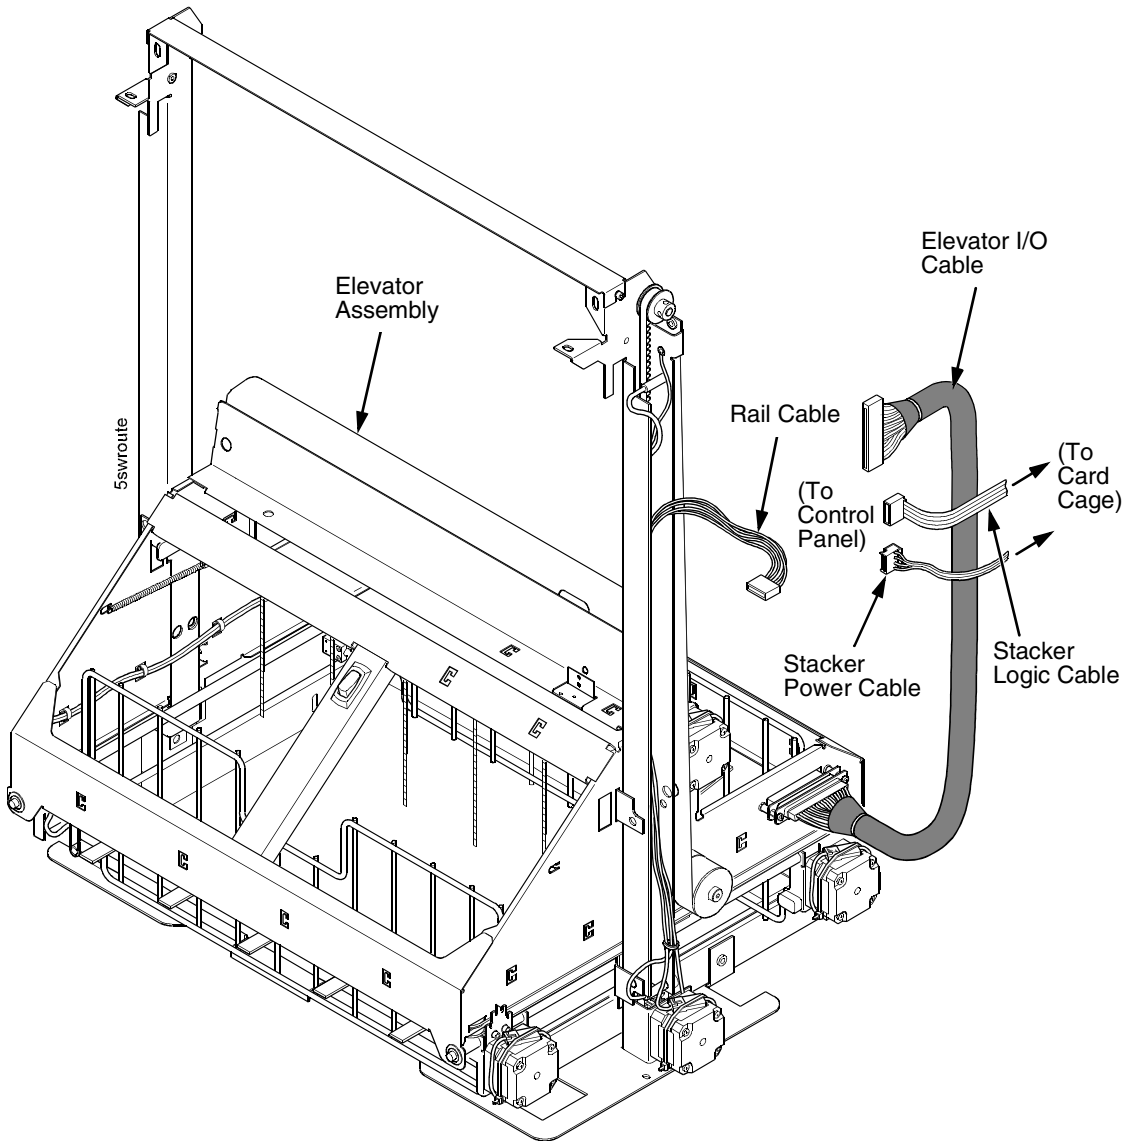

Figure 86. Stacker Cable Routing
21. Gather the stacker rail cable, elevator I/O cable, logic cable, and power cable. Route the cables outboard of the elevator assembly. (Figure 86.)